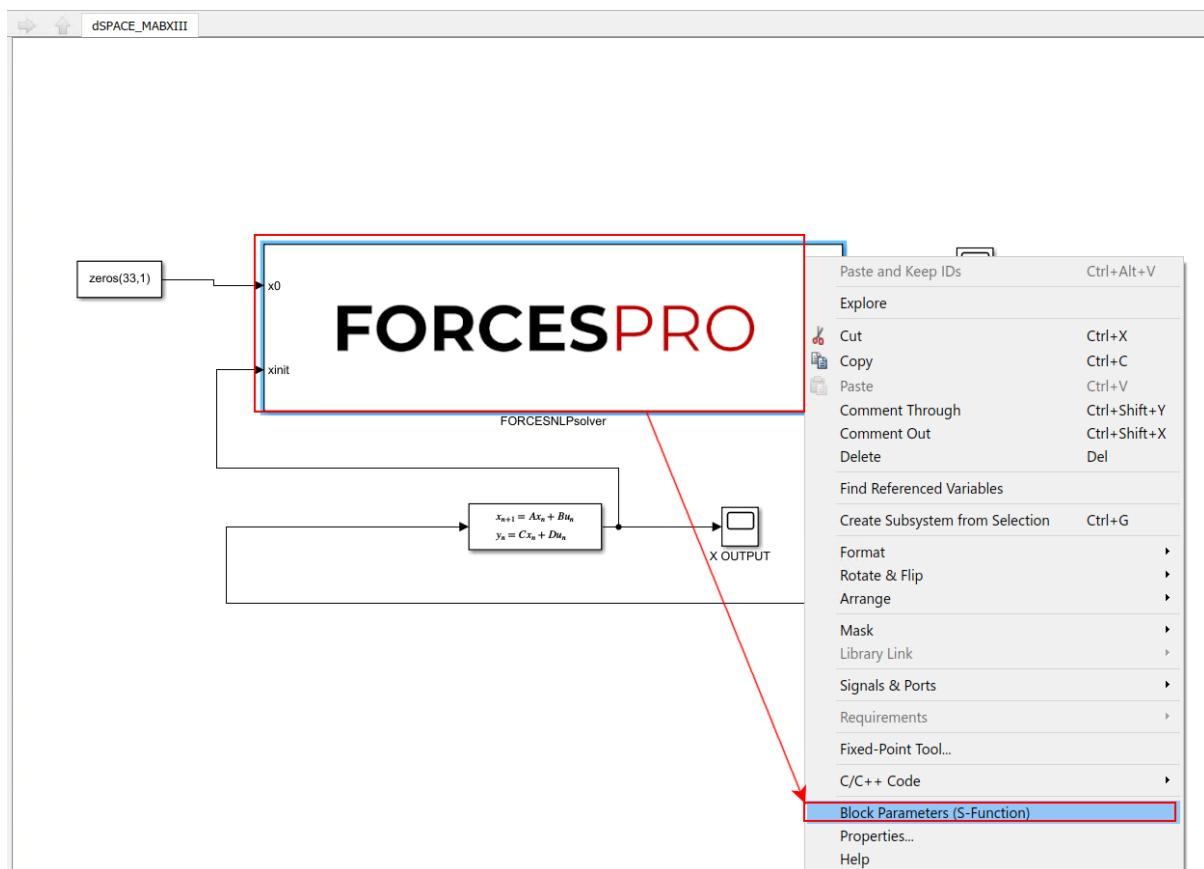

Figure 13.69: Open the FORCESPRO block's parameters.
- 13) Access the FORCESPRO block’s parameters (see Figure 13.69).